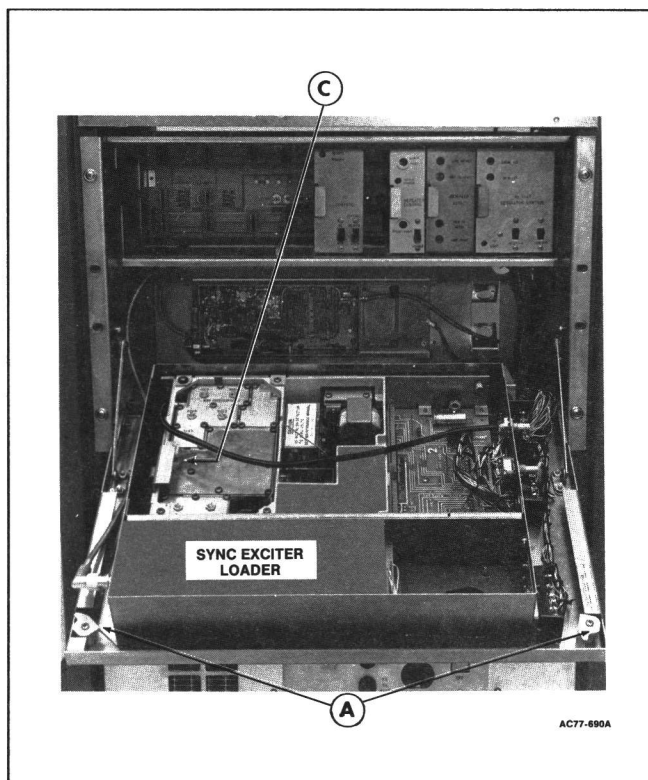

Figure 2 - Access to Receiver (Top & Bottom)
1. Turn the two latching knobs **A** counterclockwise to unlatch the Radio Housing Front door (refer to Figure 2).
2. Turn the two latching knobs **A** counterclockwise to unlatch the Radio Housing Front Door (refer to Figure 2).